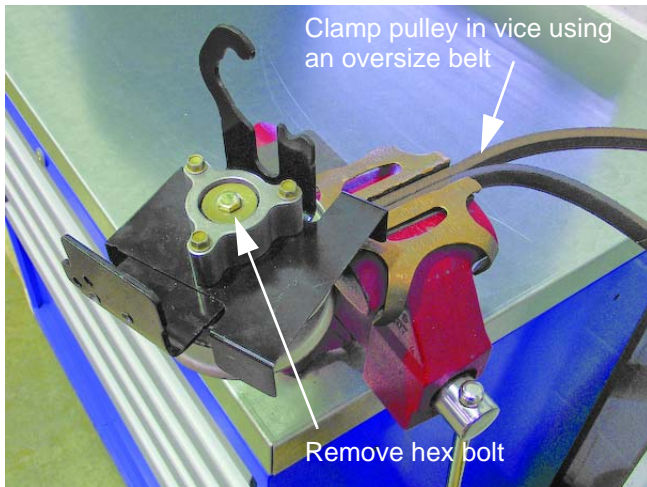

Figure 5.35
- 3a. Clamp the pulley and bracket assembly into a vise using a spare drive belt to hold pulley in place and allow removal of the pulley bolt. See Figure 5.35.